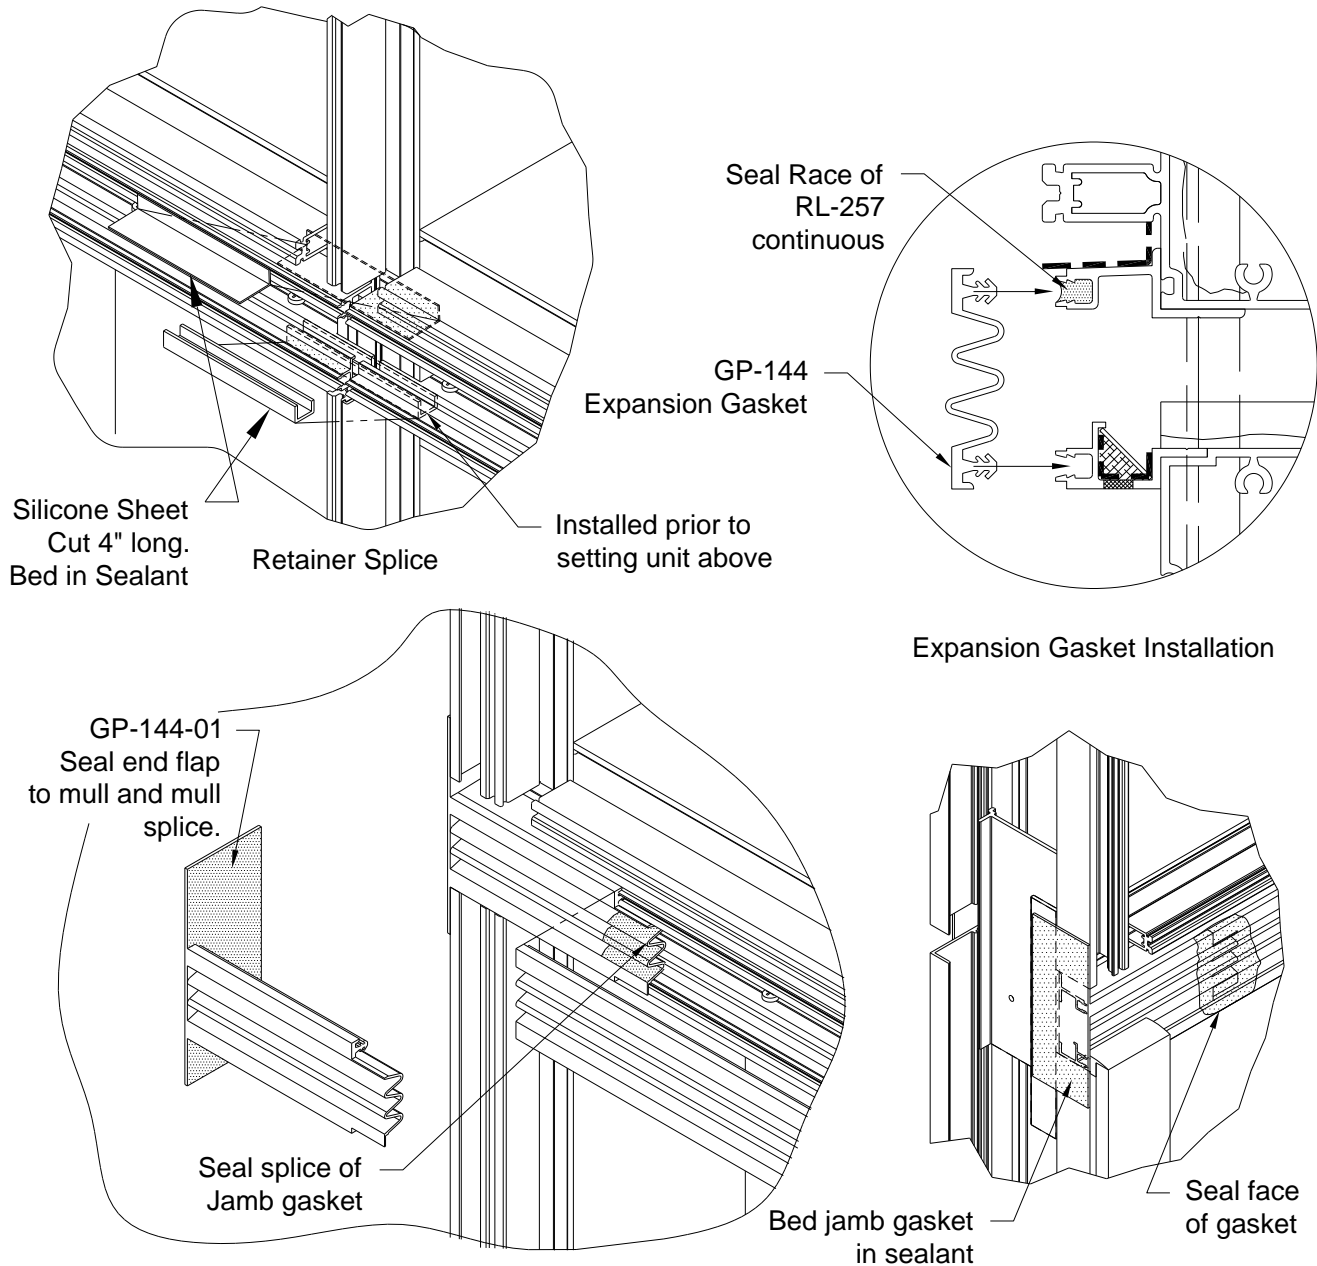

Figure 27: Expansion Gasket Installation
- 12.10 After framing is installed, install 4" long strips of Silicone Sheet to RL-257 and WW-258 retainers at center line of each vertical mullion. Sheet to be bed in sealant and tooled to form a splice connection. Install Silicone Sheet and sealant at WW-258 in lower unit prior to installing unit above. See *Figure 27*.
- 12.11 Gasket race of RL-257 to be filled with continuous bead of sealant and GP-144 gasket inserted into races for RL-257 and WW-258. Leave ends of gasket loose at jambs or corners and set once molded jamb or corner gaskets are installed. See *Figure 27*.
- 12.12 Install GP-144-01 jamb sleeve (corner gasket similar) by sealing RL-257 gasket race, sealing end flap and installing onto mullion and mull splice. Once in place, run bead of sealant across splice section of jamb gasket. Install GP-144 gasket over jamb splice and then run exterior bead of sealant over splice area to create watertight seal. See *Figure 27*.